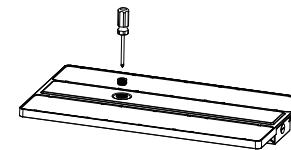

Figure 9
- Step 1. Use a screwdriver to remove the 1/2 plug from the sensor; (Figure 9)